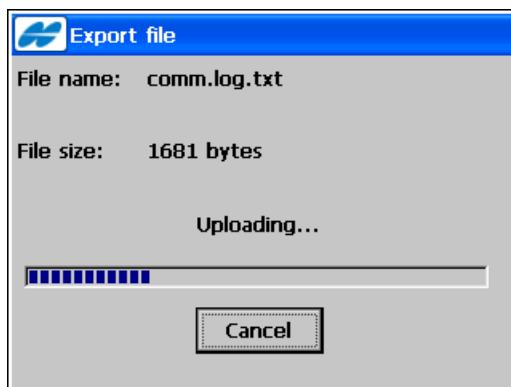

Figure 4-11. Export File
- **OK** – opens the *Export file* screen reflecting the status of exporting the selected file (Figure 4-11), then returns to the main screen if successful.